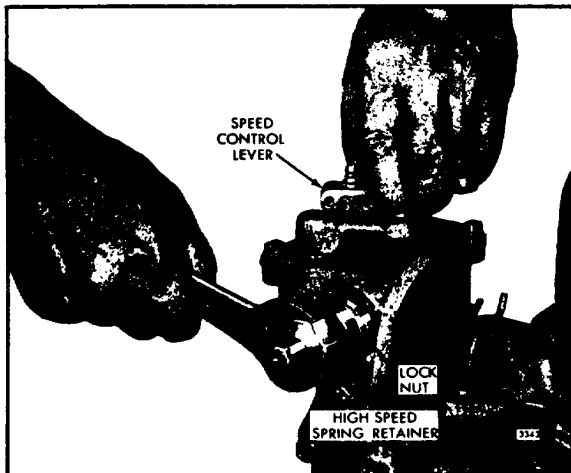

Fig 5 - Adjusting Maximum No-Load engine Speed (Type A)
1. Loosen the lock nut (Fig. 5) and back off the high-speed spring retainer approximately five turns.